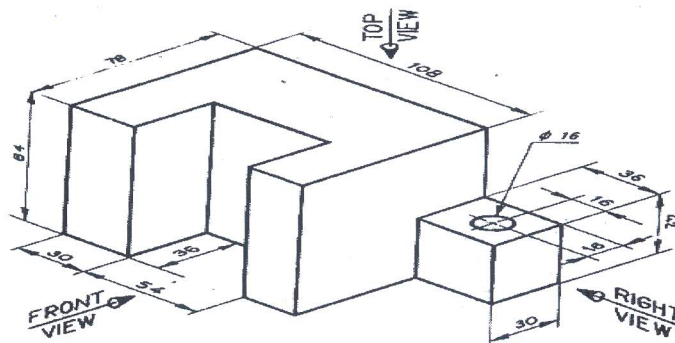

Figure 1
1. The pictorial view of machine part is shown in figure 1 draw the front, top and side views.